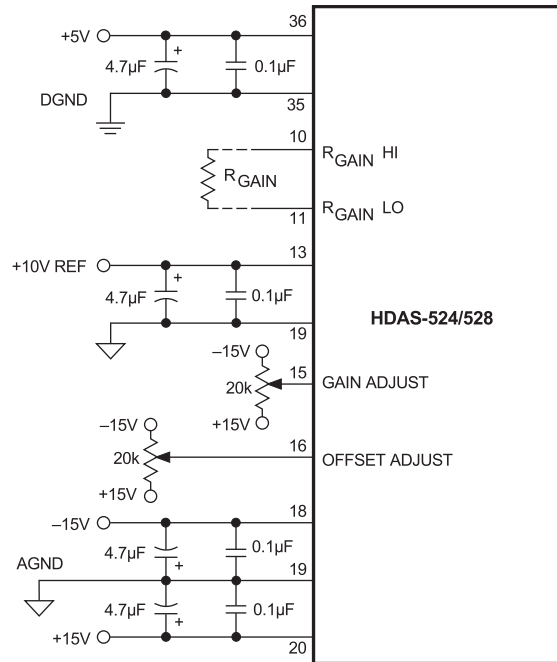

Figure 2. Typical Connection Diagram
1. Connect the converter per Figure 2 and Tables 2 and 3 for the appropriate input range. Apply a pulse of 100 nano-seconds (typical) to the START CONVERT input (pin 40) at a rate of 100kHz. This rate is chosen to reduce flicker if LED's are used on the outputs for calibration purposes.